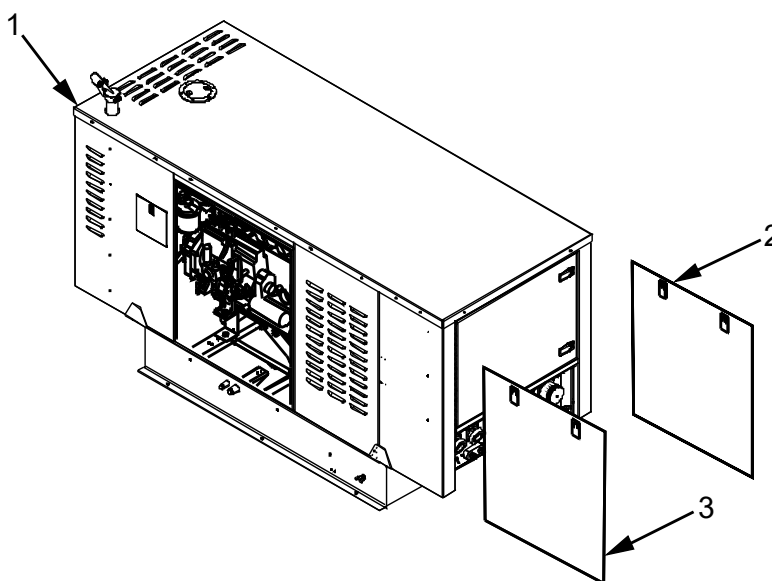

Figure 1. Remove Access Panels.
2. Remove cargo restraints (not shown) to gain access to Genset (Figure 1, Item 1). Remove front access panel (Figure 1, Item 2), rear access panel (Figure 1, Item 3), and set aside.